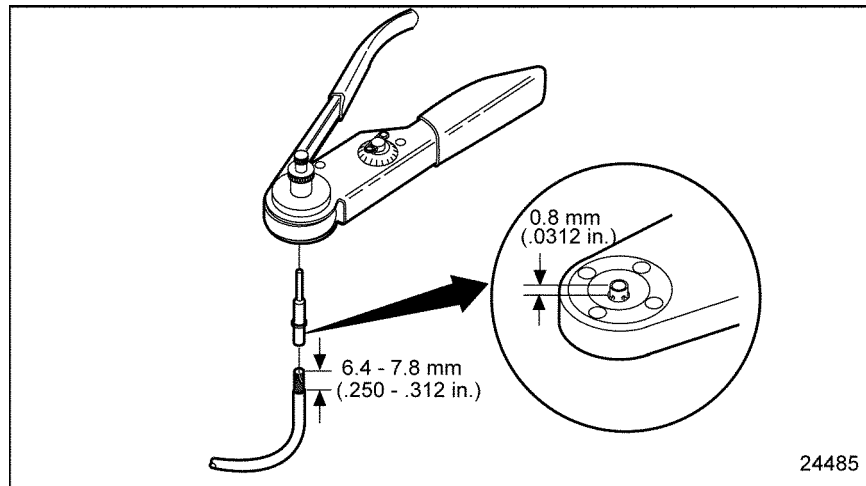

Figure 3-11 Setting Wire Gage Selector and Positioning the Contact
4. Position the contact so that the crimp barrel is 1/32 of an inch above the four indenters. See Figure 3-11. Crimp the cable.